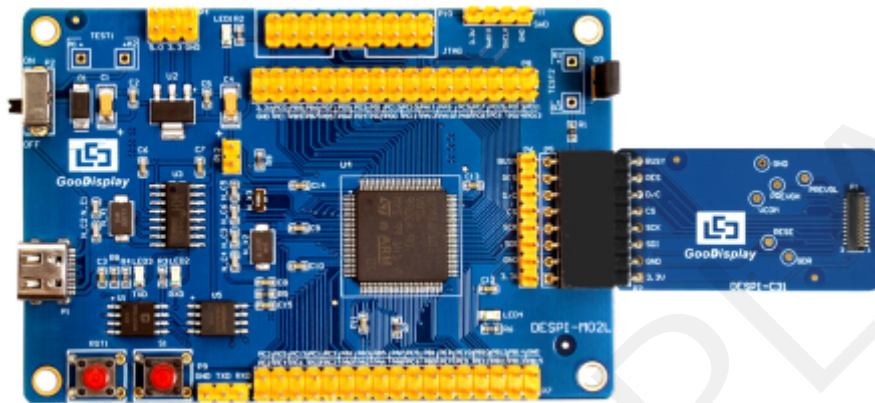

Figure 3 : Connection between main board and adapter
1) Connect the main board and the adapter board as shown in Figure 3, and connect the electronic paper FPC to the connector of the adapter board as shown in Figure 4.